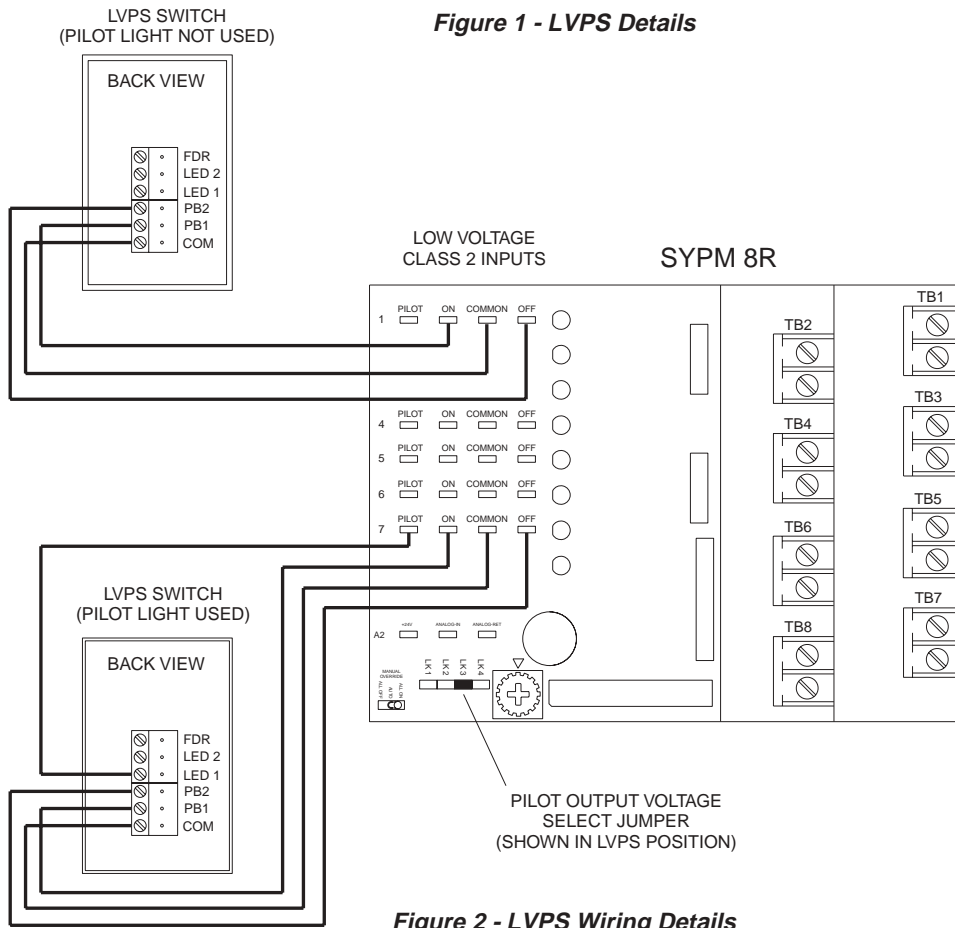

Figure 2 - LVPS Wiring Details
2. See *Figure 2* for typical wiring details.